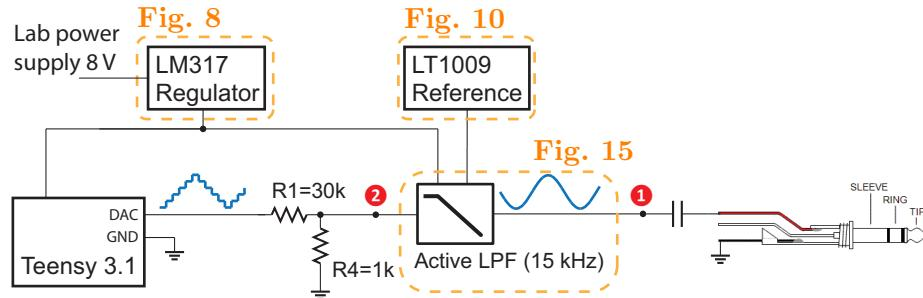

Figure 16: Acquiring signal through computer sound card.
- Set up the system according to Fig. 16.
- Now use the audio cable to acquire the signal after the gain stage (position 2 in Fig. 16). Record the data and compare it with that from the last step. Explain the difference, if there is any.